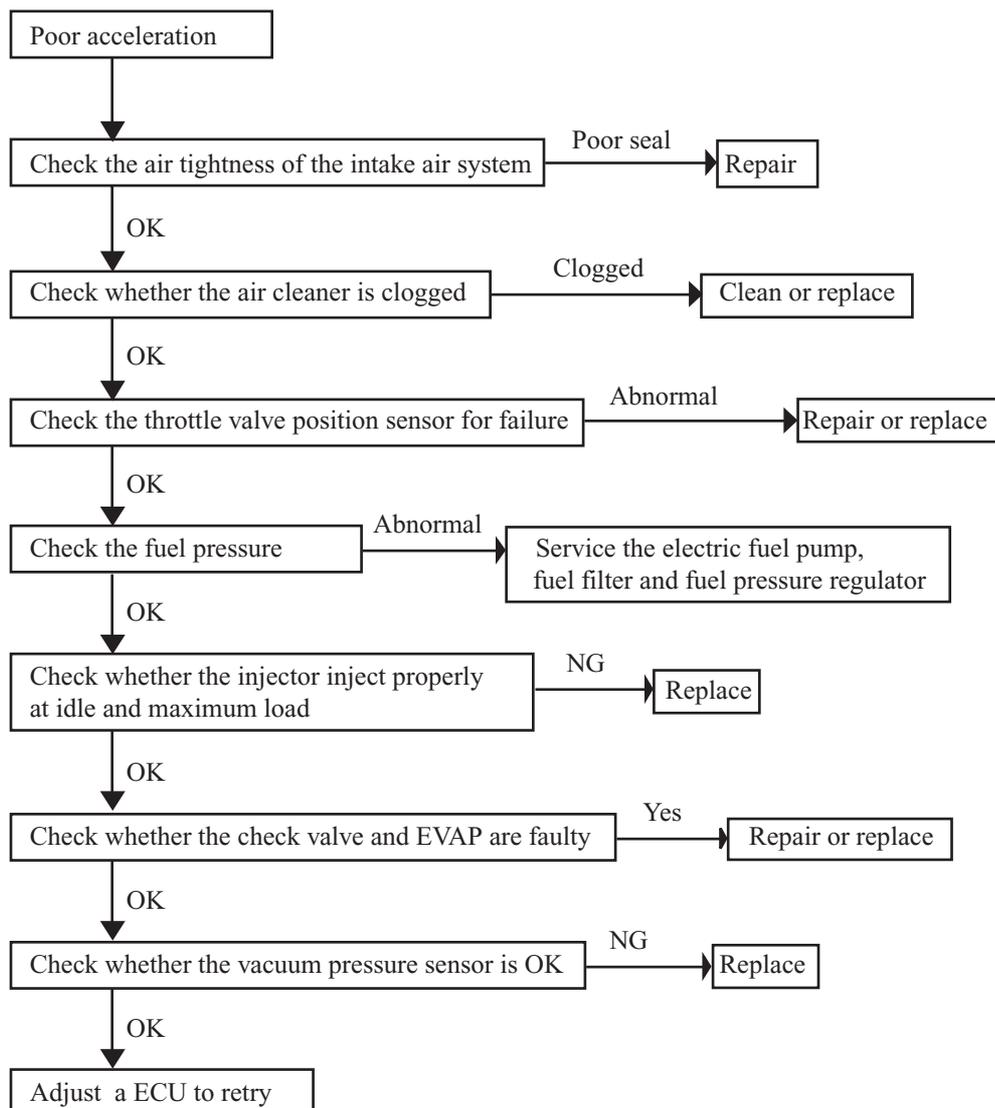

Figure 151
#### (3) Diagnosis procedure for poor acceleration (Figure 151)